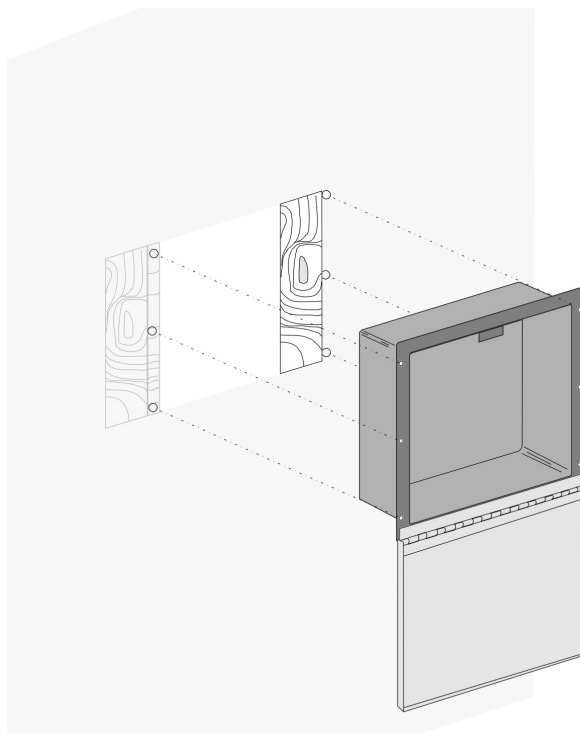

Figure 3-3 Flush Mounting
3. Screw the back box to the stud on one side and the shims on the other. Three holes are provided in each side flange of the back box (see Figure 3-3).